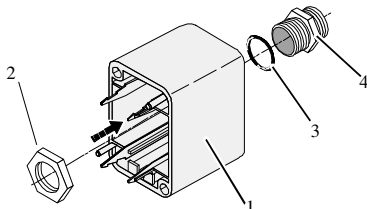

Figure 5-2: Assembling of the Cable Pipe
- The sealing must be done in the correct way O-ring (3) at the cable pipe (4) (see also Figure 5-2).